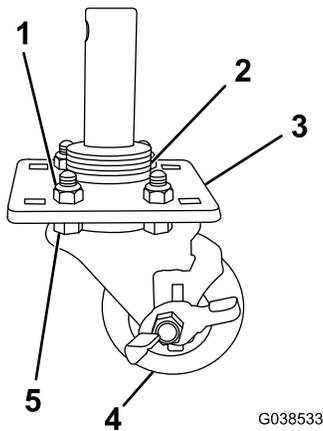

Figure 7
1. Assemble the casters as shown in Figure 7.